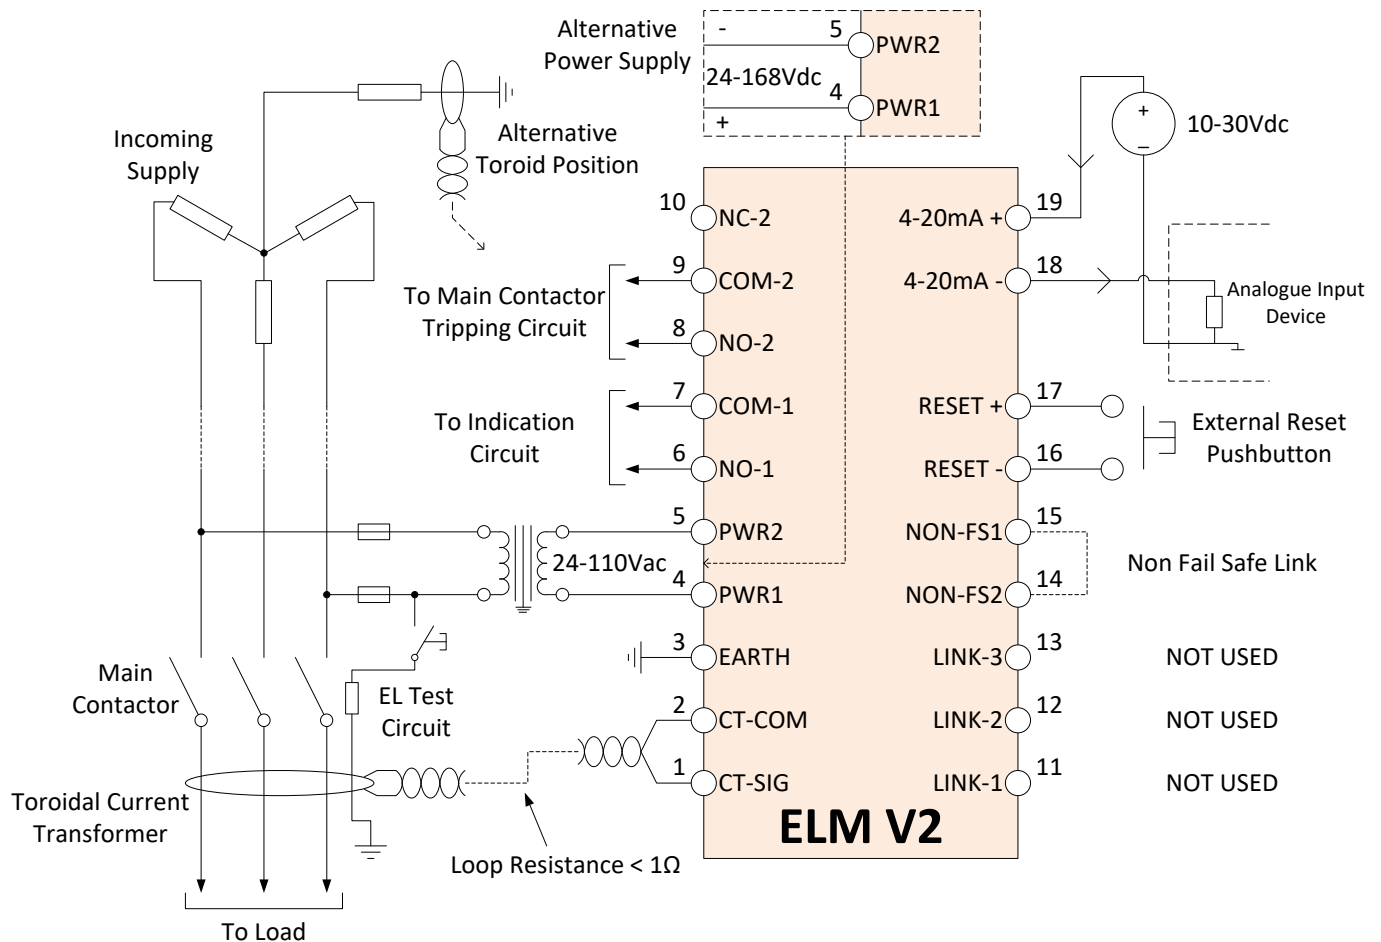

Figure 4.5: ELM V2 Typical Connection Diagram
The 4-20mA output should be wired as per Figure 4.5.
The ELM V2 can be reset using the pushbutton on the fascia of the relay, or by bridging the two RESET terminals on the relay using a normally open (NO) pushbutton or relay contact connected to the terminals labelled “Ext Reset” (see Figure 4.5 for connection information).